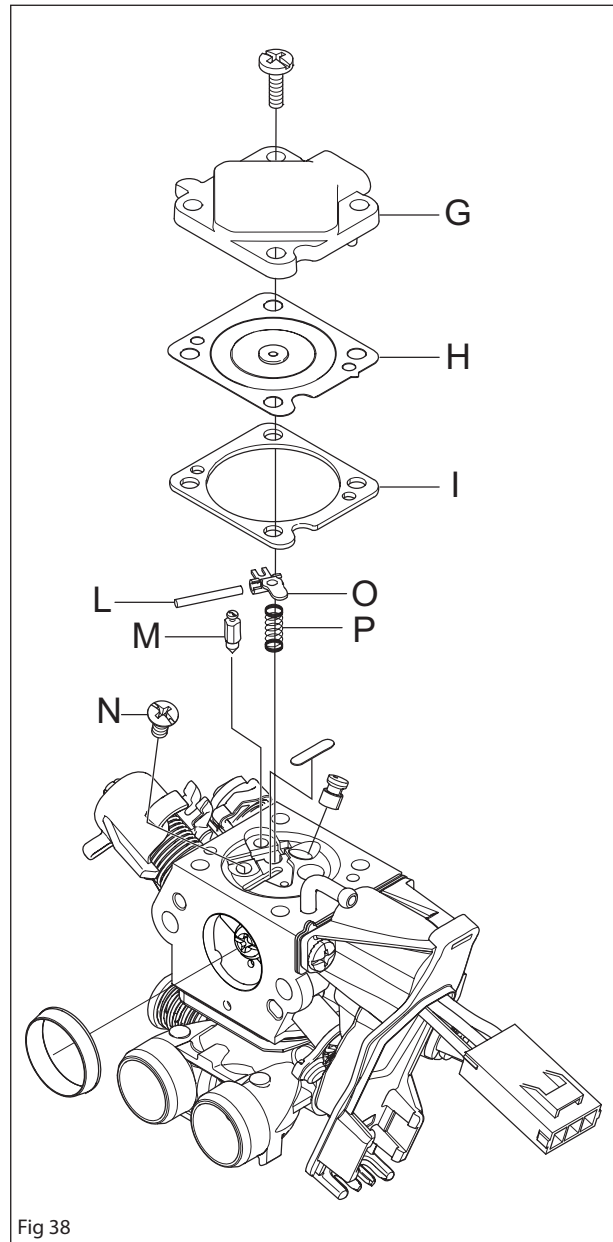

Fig 38
Dismantle the metering cover G and carefully remove the control diaphragm H and gasket I. See figure 38.
Unscrew screw N and remove needle valve M with lever arm O, shaft L and spring P. See figure 38.
3. That the needle valve M and its lever arm O are not worn. See figure 38.